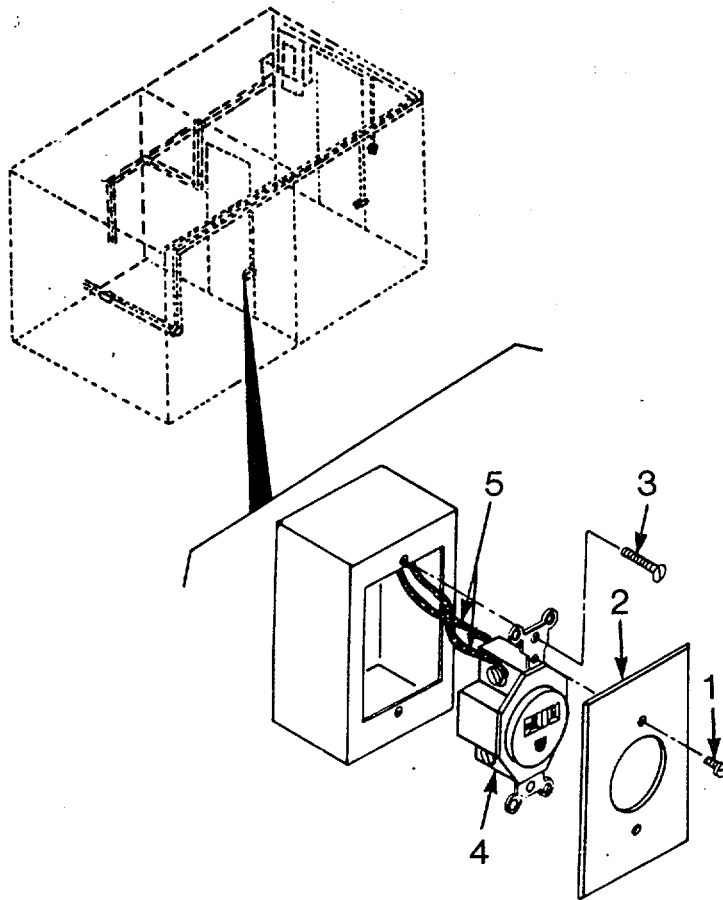

Figure 4-57. Camera Receptacle
- (3) Camera Receptacle. (See Figure 4-57.)
- (a) Remove receptacle screws (1) and cover (2).
- (b) Remove camera receptacle screws (3).
- (c) Pull receptacle (4) from conduit.
- (d) Tag camera receptacle wires (5) and disconnect.
- (e) Remove receptacle (4).
- (f) Connect wires (5) and receptacle (4) and remove tags. Position in conduit.
- (g) Install screws (3) in camera receptacle.
- (h) Install cover (2) on camera receptacle and secure with screw (1).